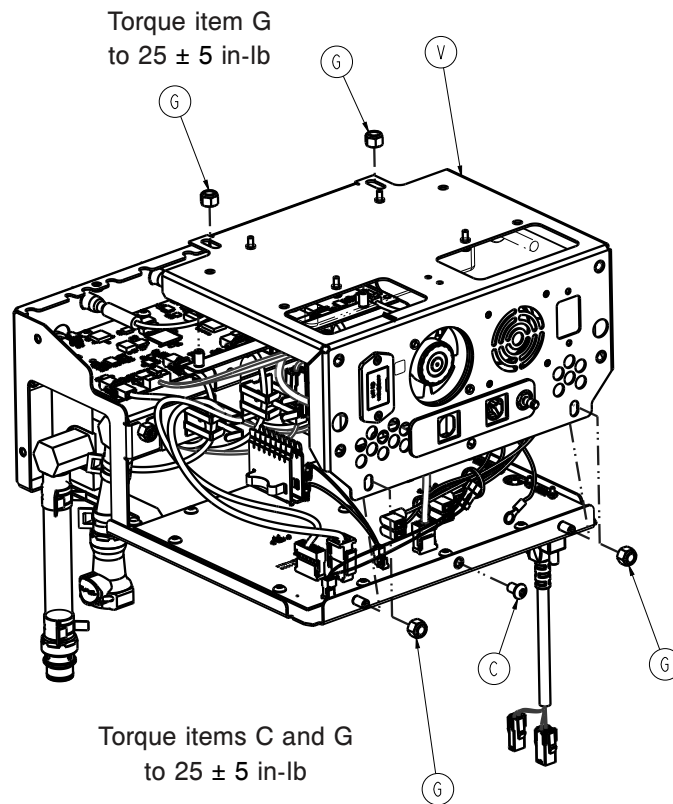

Figure 38 – Locknuts
16. Using 7/16" socket, remove the two locknuts (G) that secure the manifold assembly to the control assembly (Figure 38). Save the locknuts.